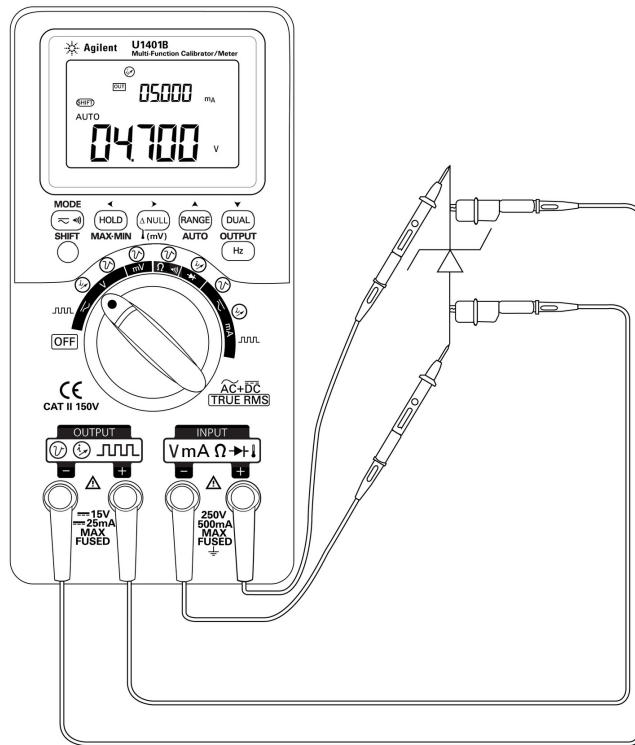

Figure 5-5 Zener diode test
- 2 Connect the red alligator lead between the positive output terminal and the positive (anode) side of the zener diode. See Figure 5-5 on page 95.